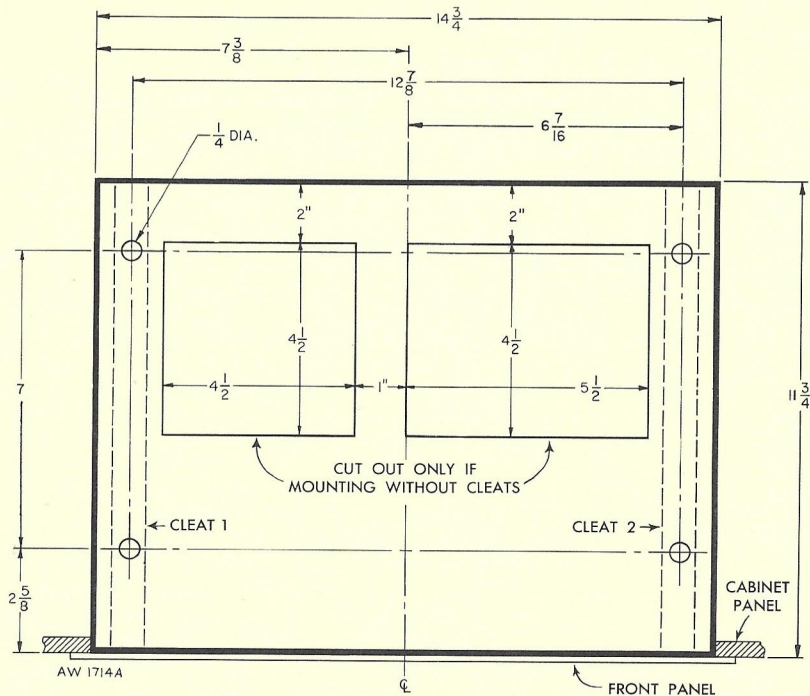

FIGURE 4. Top view of custom cabinet installation
- 2—Fasten the two cleats to the top of the mounting board with wood screws in the position shown in Figure 4. Then locate and drill four $\frac{1}{4}$ -inch holes through the mounting board and cleats as indicated.
- 1—Cutouts must be made in the mounting board beneath the ventilation holes in the bottom of the *X-101-B*, as shown in Figure 4.
- 2—Locate and drill four $\frac{1}{4}$ -inch holes in the mounting board as shown in Figure 4.